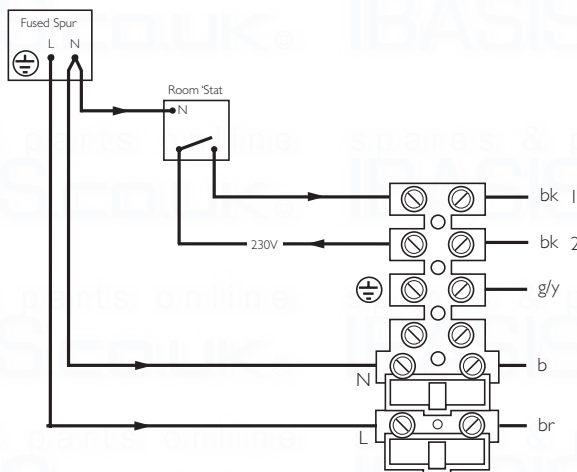

Fig. 49
6. Remove the link between terminals 1 & 2. The 230V supply at terminal 2 must be connected to the thermostat. The switched output from the thermostat must be connected to terminal 1. (Figs. 49 & 50). If the room thermostat being used incorporates an anticipator it **MUST** be wired as shown in Figs. 49 & 50.